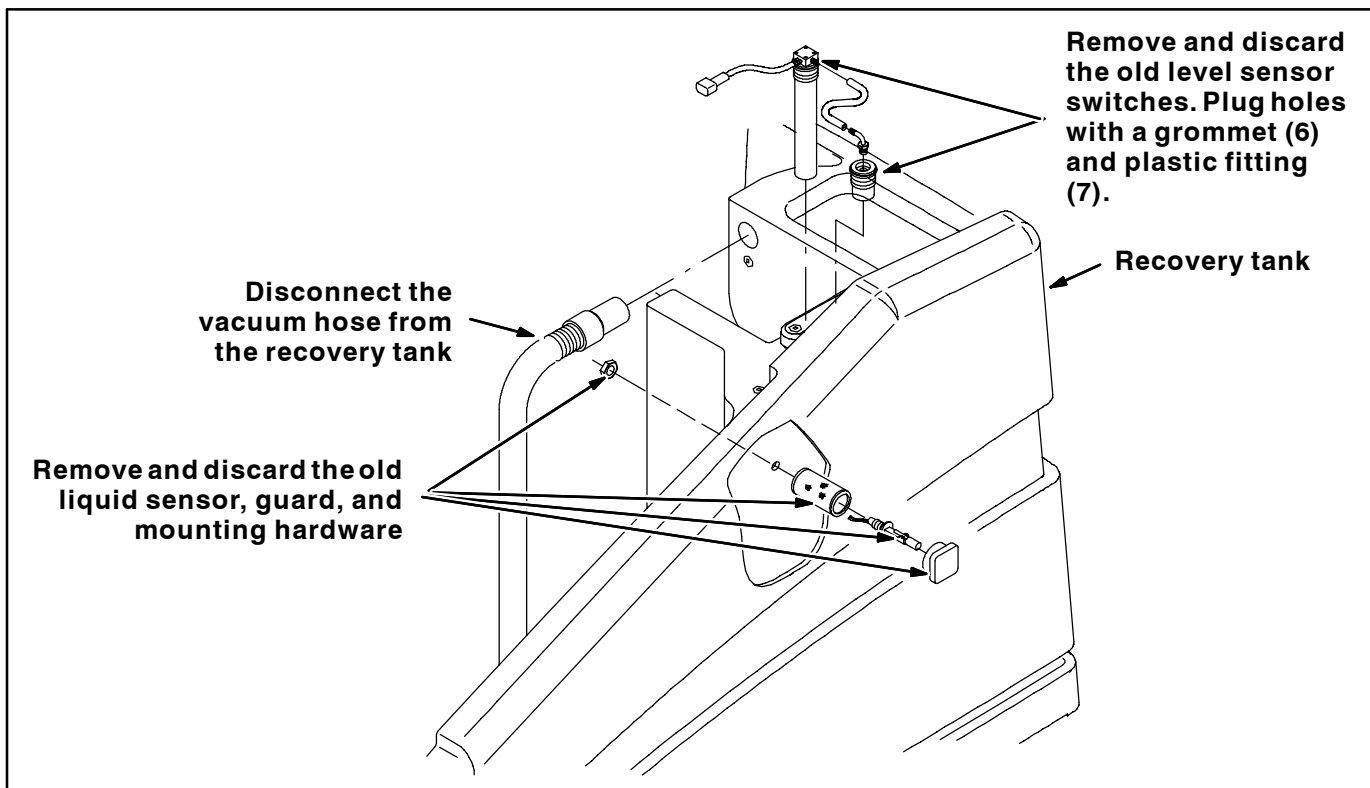

FIG. 2-Remove Old Liquid Level Sensor
5. Disconnect the vacuum hose from the recovery tank. Refer to Fig. 2.
7. **Machines serial numbers 10022 and above:** Remove the old liquid level sensor and guard from the recovery tank. Discard the old liquid level sensor and guard. Refer to Fig. 2.
Machines serial numbers 10021 and below: Remove the existing level sensor (long tube level sensor 375426). Discard the level sensor. Refer to Fig. 2.
Use the grommets (6) and plastic fittings (7) to plug the holes where the level sensor removed in the previous step was located. Refer to Fig. 2.